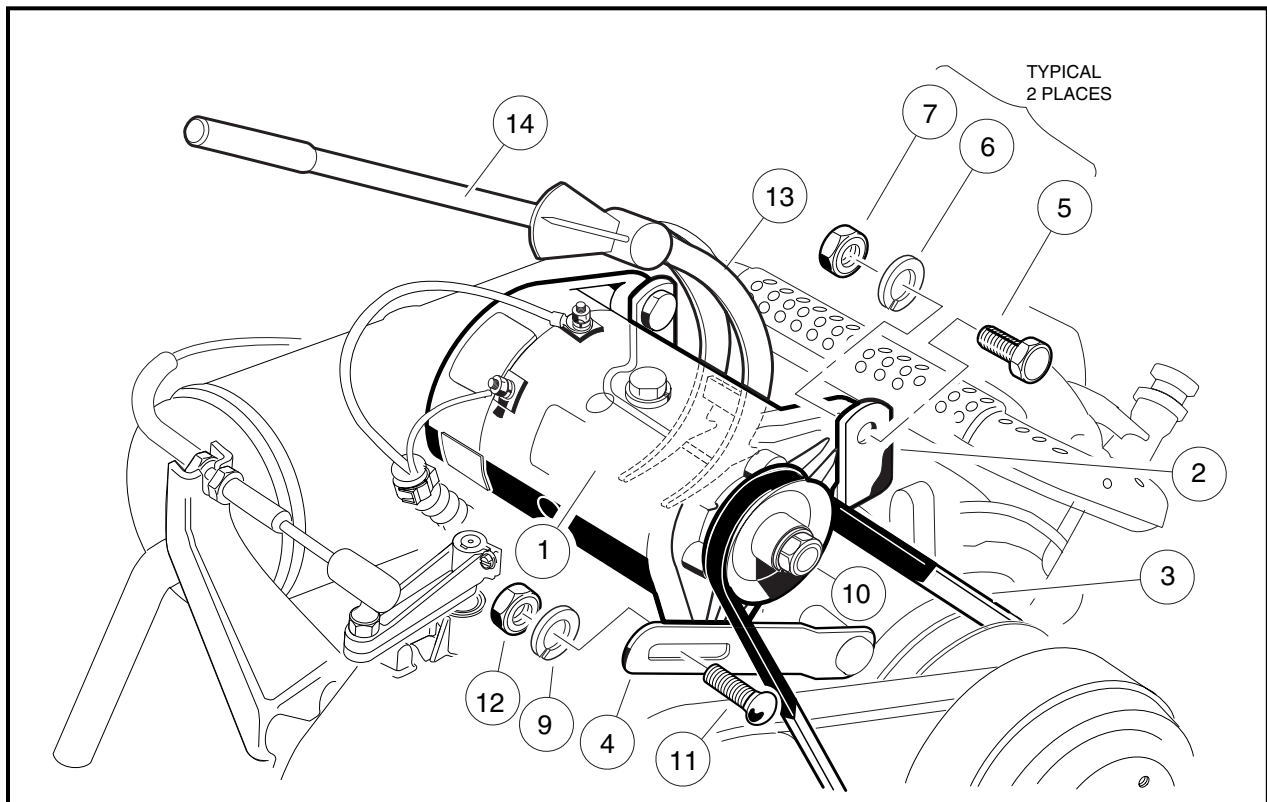

FIGURE 12-48
**Installing the Starter/Generator (Figure 12-48)****⚠ WARNING**
- Install the two 3/8 hex head pivot screws (5) into the mounting bracket with the heads of the screws facing towards the driver side of the vehicle. Position the starter/generator in the mounting bracket so that the screws will go through the bracket before going through the starter/generator. Install a lockwasher (6) (early 1997 vehicles only) and 3/8 nut (7) onto each screw. Tighten the screws and nuts to finger tight (**Figure 12-48**).
- Install the adjustment screw (11) through the adjusting bracket (4) and then through the starter/generator. Install a lockwasher (9) and 5/16 nut (12) onto the end of the adjustment screw (11). Tighten to finger tight (**Figure 12-48**).
- Install the belt (3) then tighten the mounting screws (**See Belt Adjustments on next page**).
2. Make sure the two pivoting screws (5) on the mounting bracket are finger tight. The adjustment screw (11) and nut (12) are to be finger tight also (**Figure 12-48**).
3. Push the starter down so it is at the lowest part of its adjustment travel. With the starter belt fully in place around the drive clutch pulley (this pulley is the one closest the crankcase cover on the engine), install the starter belt (3) around the pulley (10) on the end of the starter/generator (1). Place the tension tool (13) (Club Car Part No. 1016867) between the starter/generator and the starter/generator mounting bracket (2) so that the tension tool will lift up the starter/generator.
4. Install a standard 1/2 inch (12.7 millimeters) drive torque wrench (14) into the tension tool (13). Through the access opening in the rear body, position the wrench and tension tool as shown (**Figure 12-48**). Pull up on the wrench and tension tool until 70 ft. lbs. (95 N-m) of torque has been applied for a new belt. Apply only 40 ft. lbs. (54 N-m) for a previously used belt.
5. Tighten the adjustment nut (12) to 12 ft. lbs. (16 N-m) of torque. Tighten the two pivot screws (5) and torque nuts (7) to 21-25 ft. lbs. (28.5/34 N-m) (**Figure 12-48**) (**See CAUTION below and NOTE at top of Page 118**).